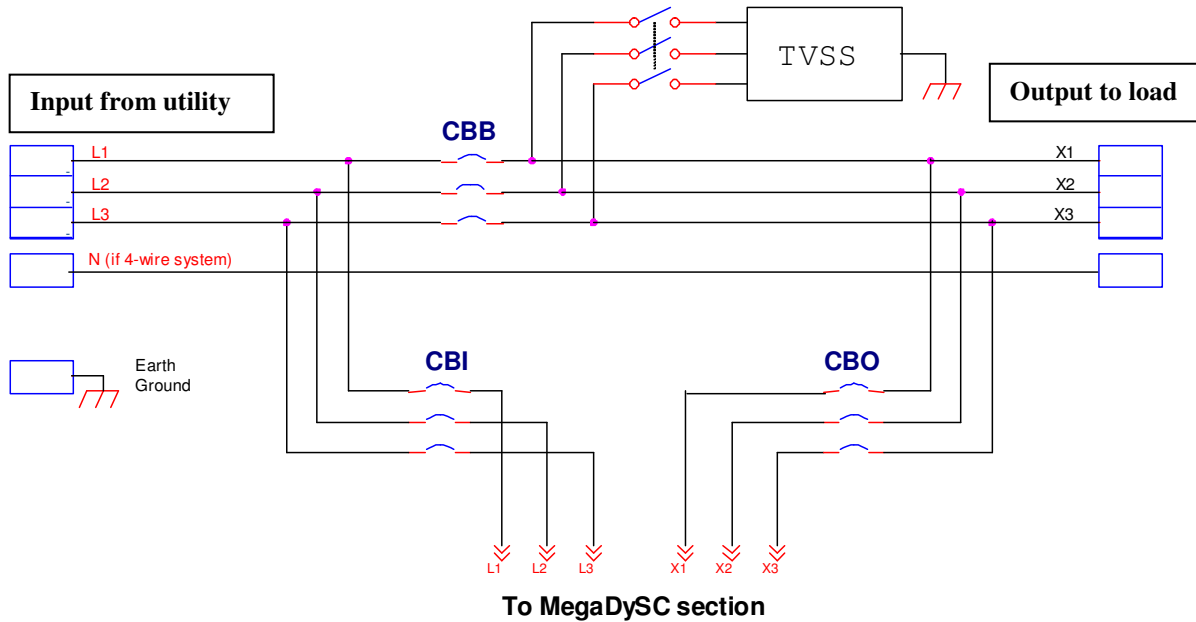

Figure 5, Schematic Diagram of Automatic Bypass Switchboard Power Circuit
2.4 TRANSIENT PROTECTION (see Figure 5)